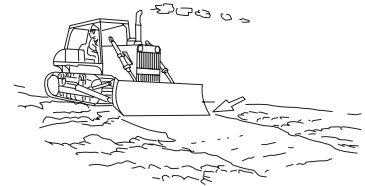

Figure 2-84
2.5.4 LEVELING OPERATION (FIGURE 2-84)